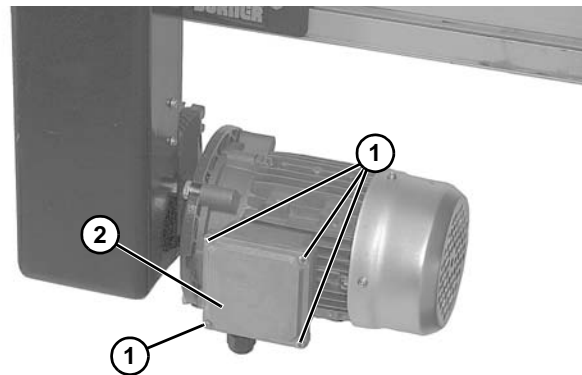

Figure 27
- Loosen terminal box screws (**Figure 27, item 1**) and remove cover (**Figure 27, item 2**).